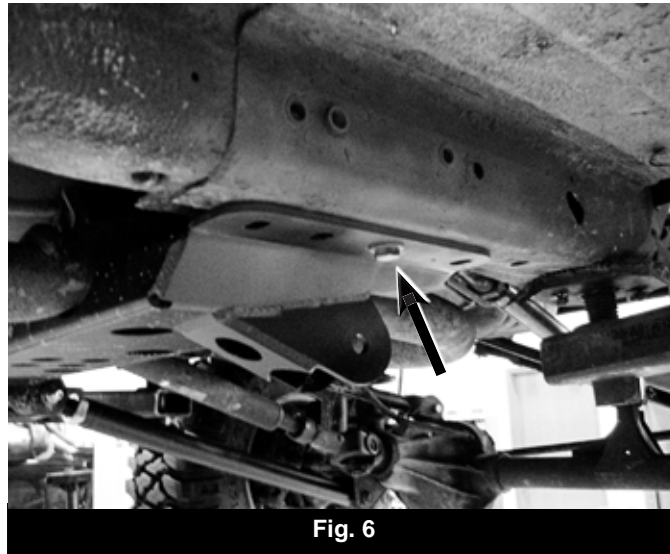

Fig. 6
14. With the help of an assistant, place the crossmember (01370) up to the uni-body and align the front threaded hole in the body with the front mounting hole in the crossmember. Loosely attach the crossmember to the frame with a 10mm x 30mm bolt and 3/8" USS washer (BP 715) in the second hole from the front of the crossmember on each side of the vehicle (Fig 6).